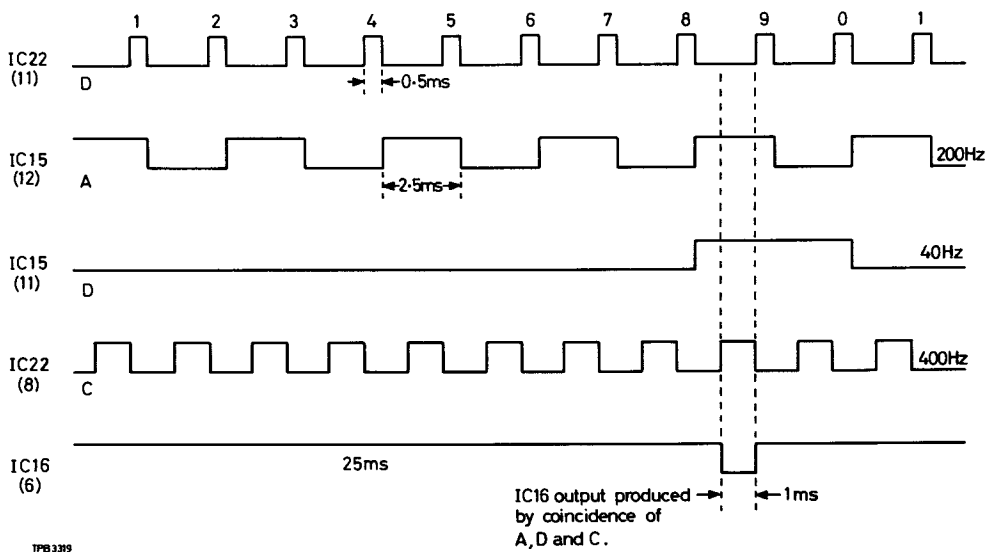

Fig. 5 Operation of IC16 pulse gating circuit
30. IC16 NANDS together the outputs of the reference divider and provides drive pulses to the ramp generator. The 1 ms pulses are derived as shown in Fig. 5 when divider outputs A, D and C are coincident.